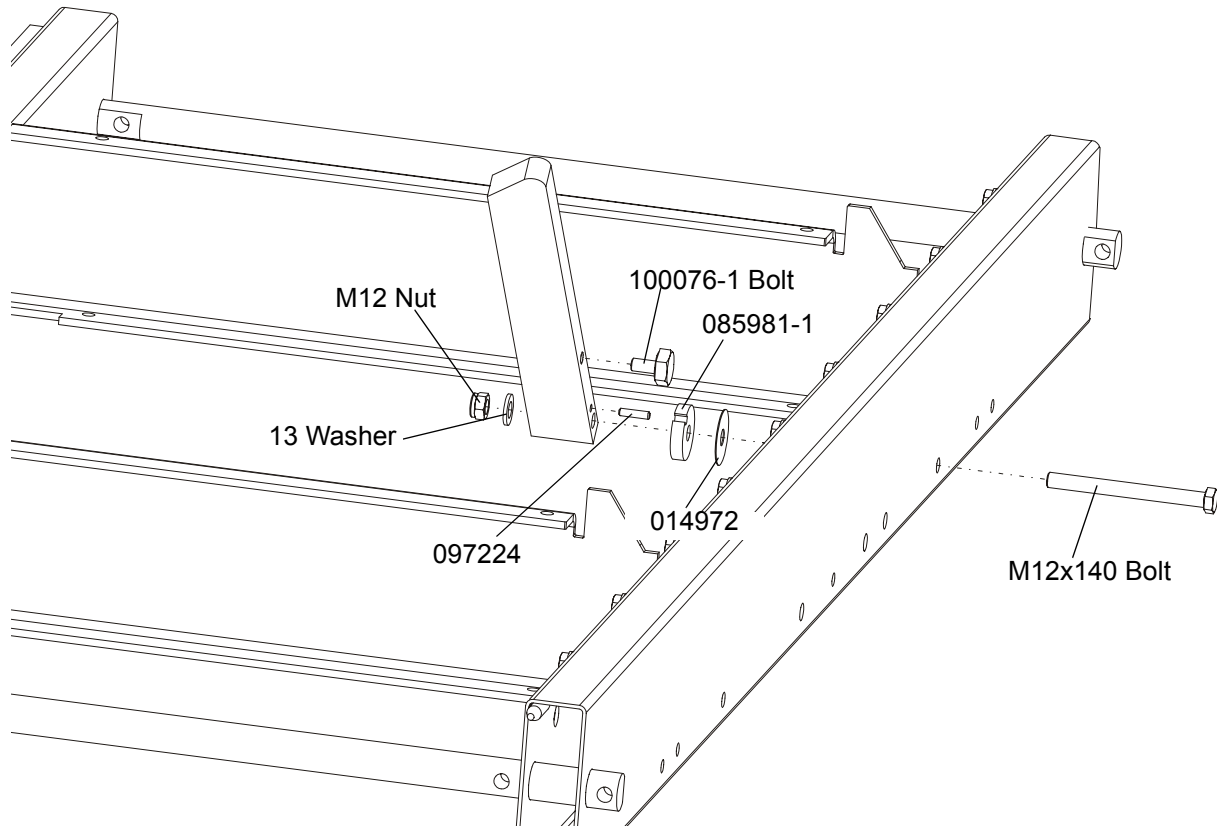

FIG. 2-7
- 8. Install the log side supports as shown in Figure 2-7. Tighten the nuts so that the side supports can be moved with little resistance. Adjust the side supports. See Section 6.11.
See Figure 2-7.